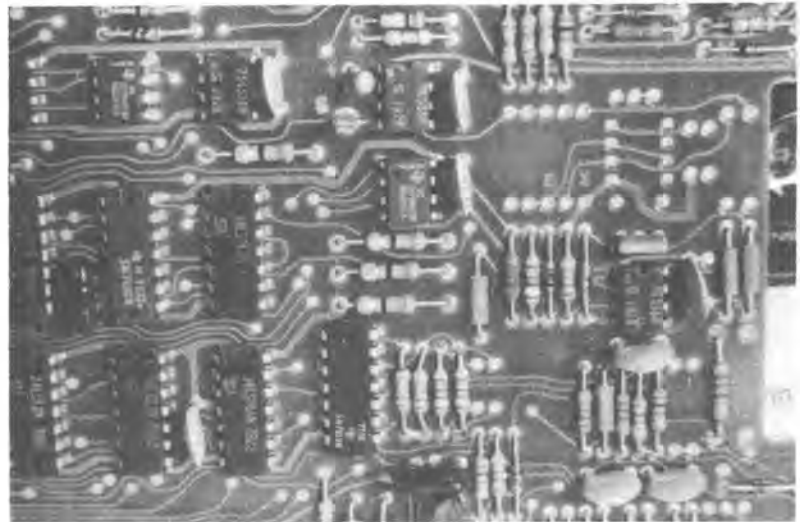

Figure 2: This illustration of a computer board shows the strict method of 'dress' used - it enables rapid identification of circuit sections and components.
- component layout suggests. Capacitors should read from the same direction as the resistors. And where components lay side by side, their codings should be oriented where they can be seen. Those components that are polarised must obviously be installed as indicated on the overlay or component layout diagram. Components should be straight and parallel. See figure 2.